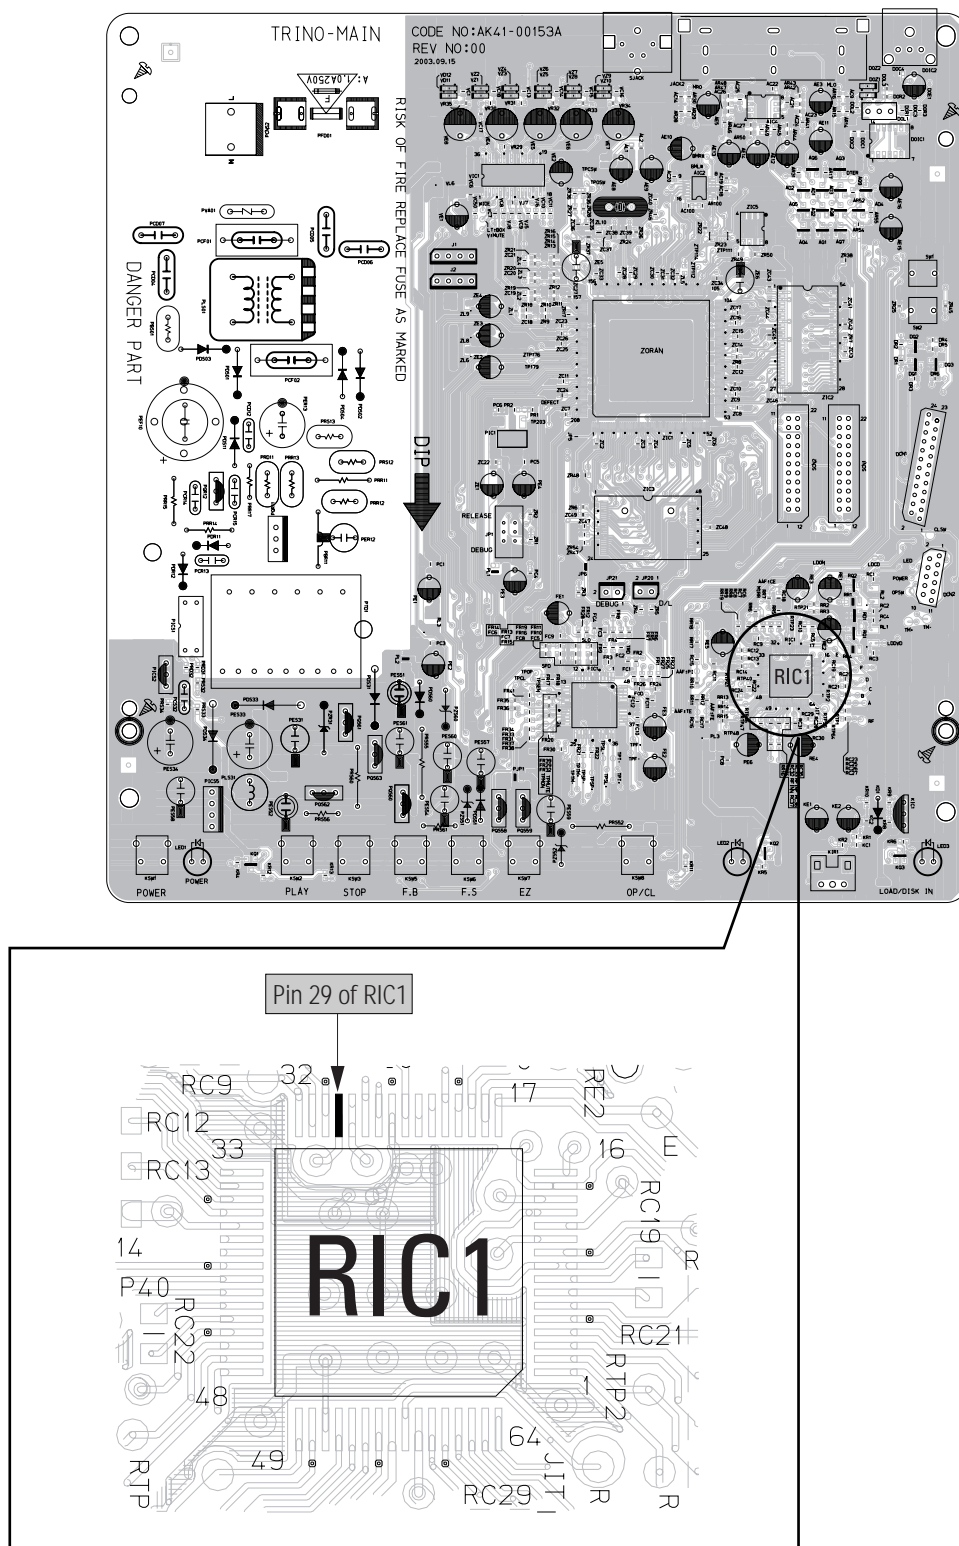

Fig. 2-1 Location of Test Point
- 1) Connect an Oscilloscope to the "Pin 29 of RIC1" Test Point (See Fig. 2-1).